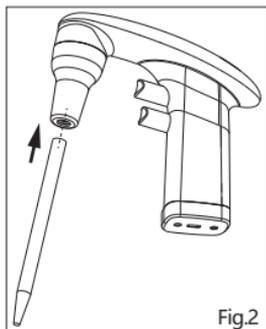

Fig.2
- Pick up the pipette from above and carefully insert it in the aspirating cone until it is positioned securely and air-tight (Fig.2).